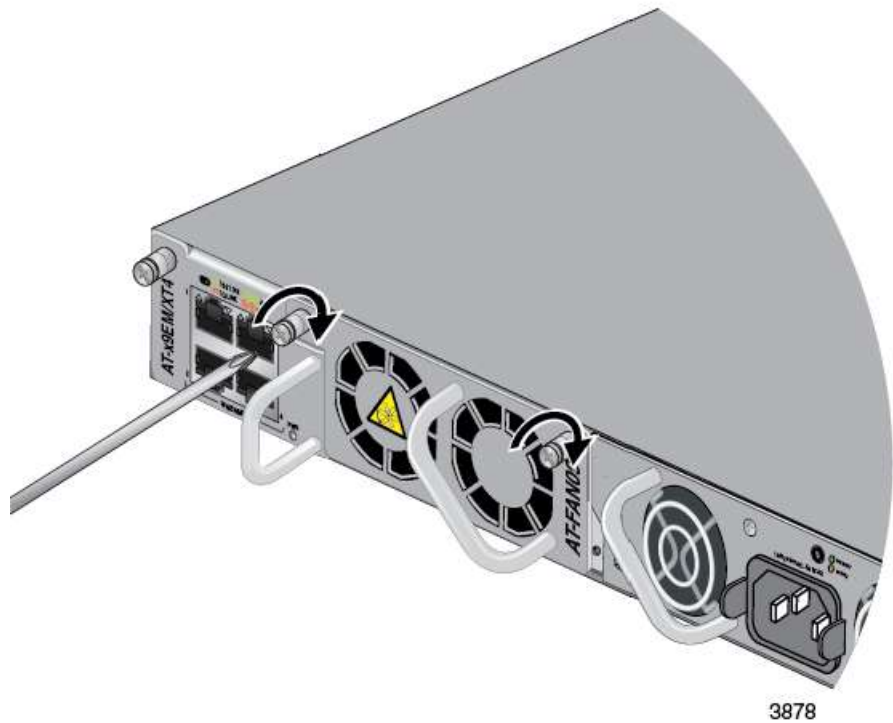

Figure 37. Tightening the Two Captive Screws on the AT-FAN09 Module
12. Tighten the two captive screws on the AT-FAN09 Module to secure it to the switch. Refer to Figure 37 on page 85.